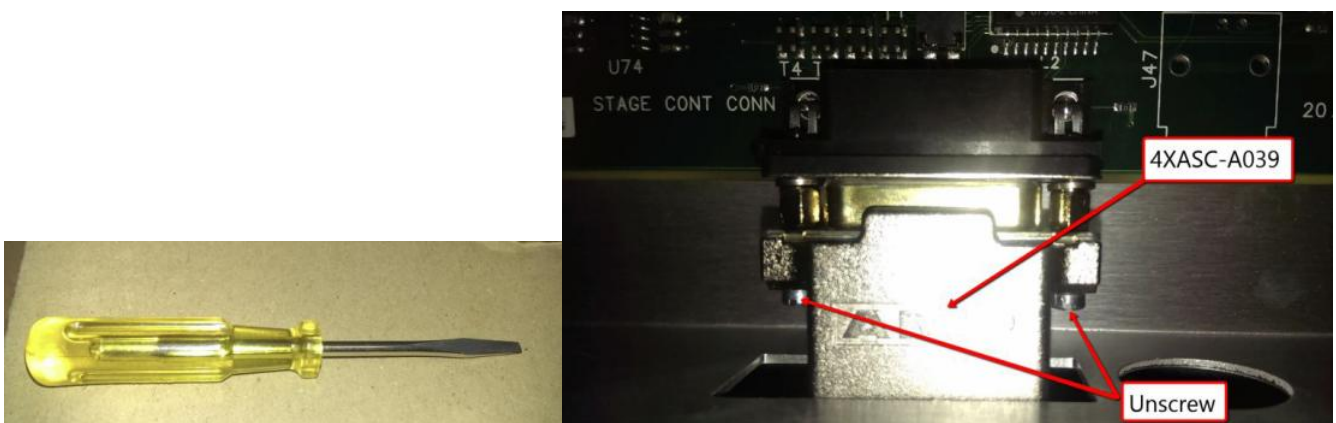

Figure 5 Connector removal
7. Use a short slotted screwdriver unscrew and disconnect the CABLE, TRIGGER IO, DBN 15 (P/N, 4XASC-A039) cable from Trigger Board as Figure 5.